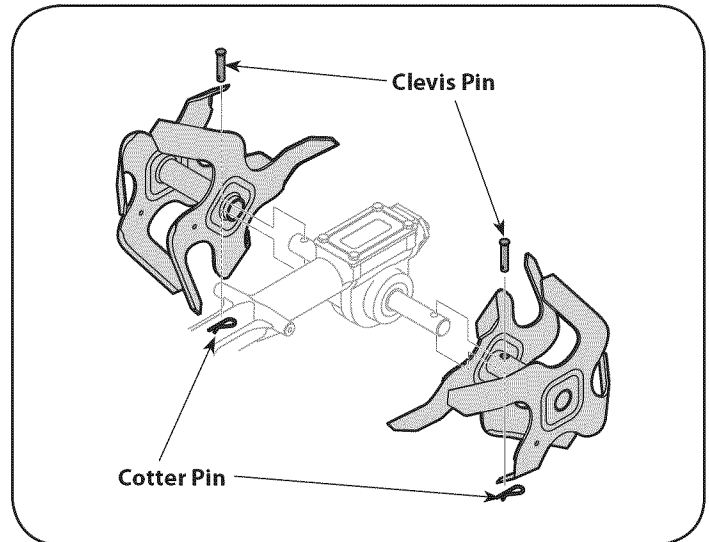

Figure 32
3. To remove a tine assembly, simply remove the cotter pin securing the clevis pin. See Figure 32.